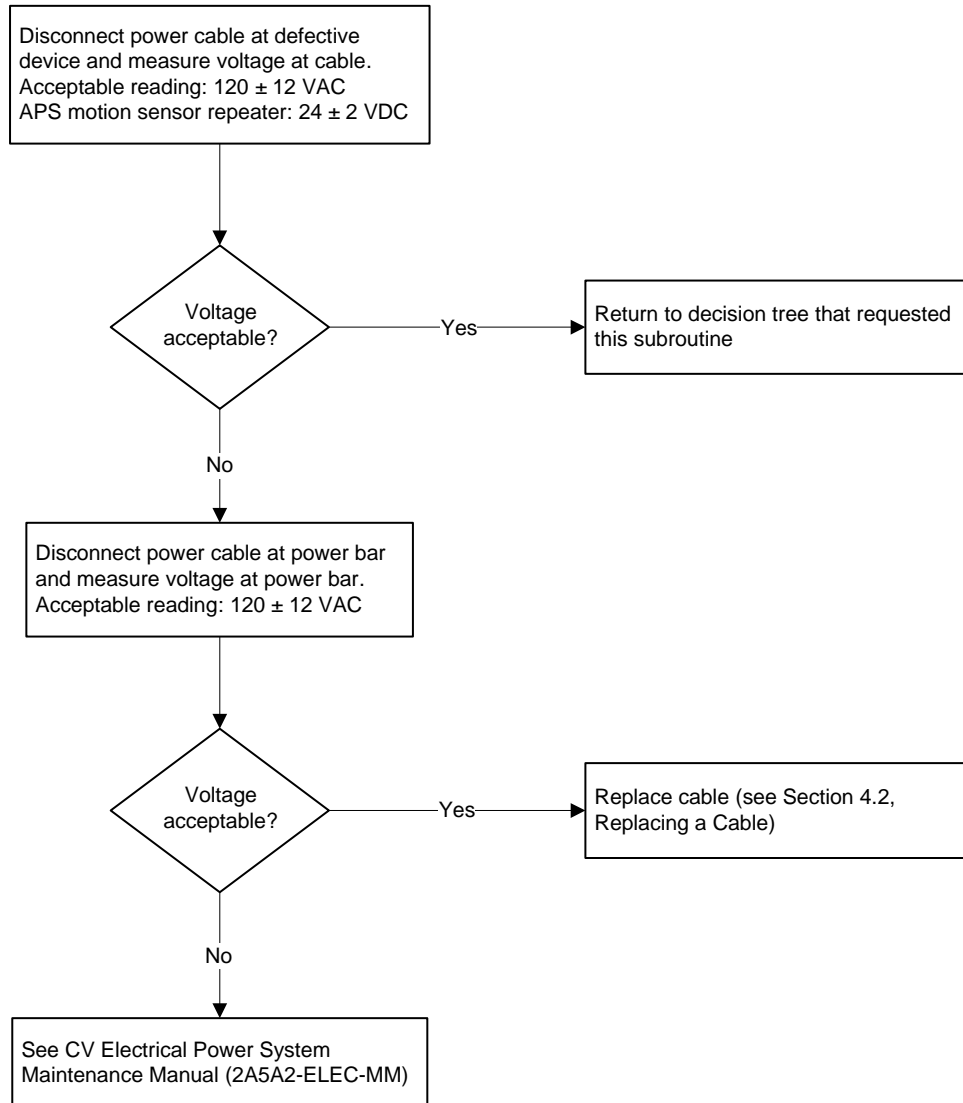

Figure 1 Troubleshooting Subroutine – General Power Check
1. Follow the troubleshooting steps in Figure 1.